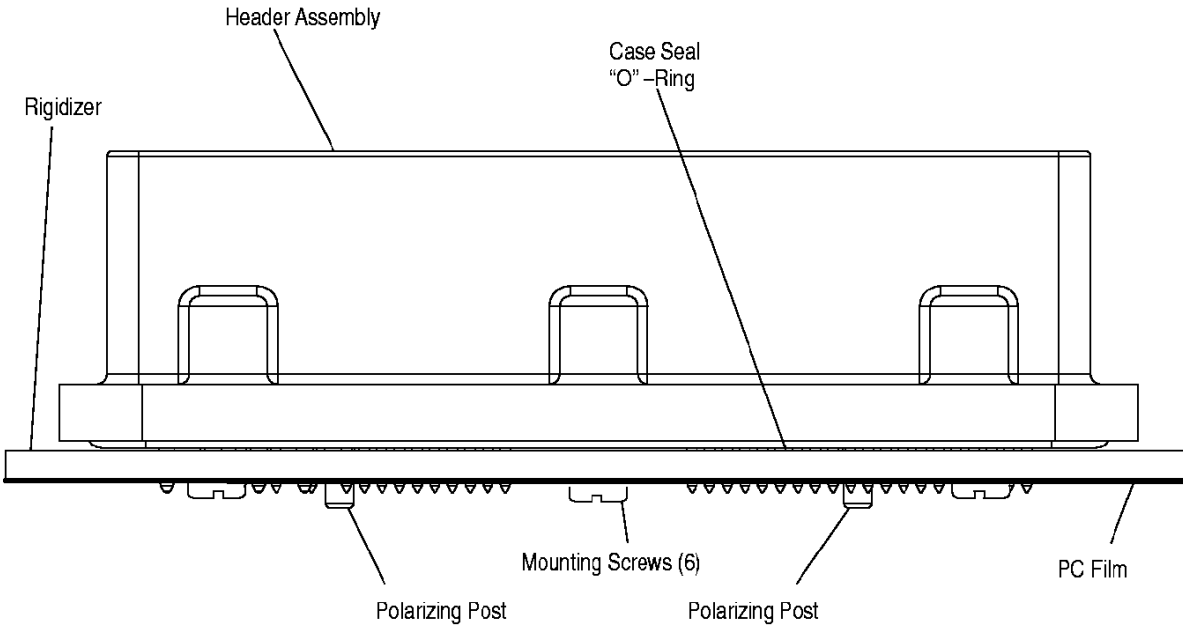

Figure 10
3. Check for proper placement of the header interface seal, which sits inside the header pocket. This seal should be flush against the bottom of the pocket. See Figure 10.